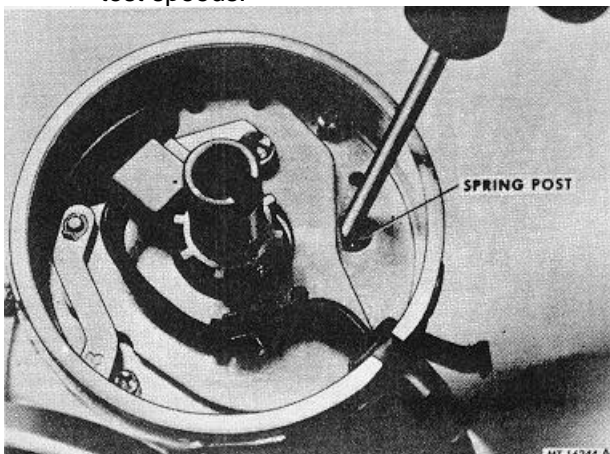

Fig. 60 Adjusting Advance Spring Tension
- b. Increase distributor speed, pausing at each specified test speed to note the amount of advance that is occurring. If advance at specified test speeds is not within specified limits, adjust advance spring tension by bending the spring posts (Fig. 60). Bend post(s) toward distributor shaft to decrease tension (increase advance) and away from shaft to increase tension (decrease advance). Make adjustments carefully in order to keep advance within specified limits. Adjustment is not complete until advance falls within specified limits at all test speeds.